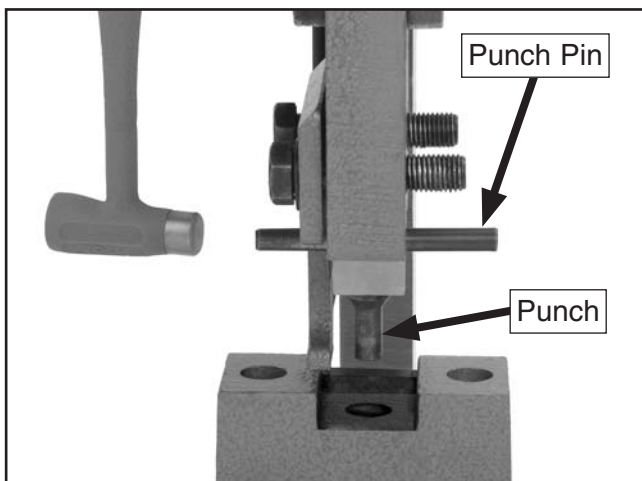

Figure 11. Punch pin removal (side plate removed for clarity).
2. Tap the punch pin until it moves freely, but do not fully remove it (**Figure 11**).